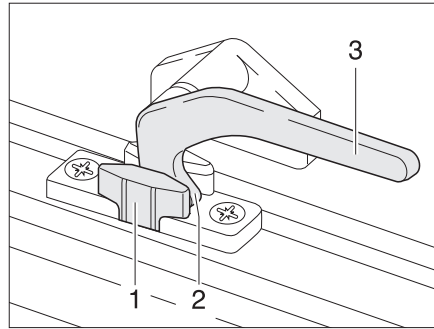

Fig. 73 Catch lever in the "continuous ventilation" position
- "Continuous ventilation" (Fig. 73)
- Turn the catch lever (Fig. 73,3) a quarter turn towards the centre of the window.
- Turn the catch lever a quarter turn towards the window frame. The locking catch (Fig. 73,2) has to be moved into the recess of window catch (Fig. 73,1).